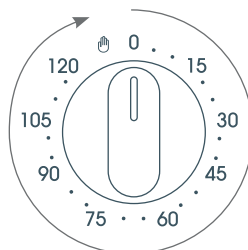

Fig. 16 Setting the oven to manual mode
- 3 Turn the timer knob clockwise to the hand symbol (Fig. 16).